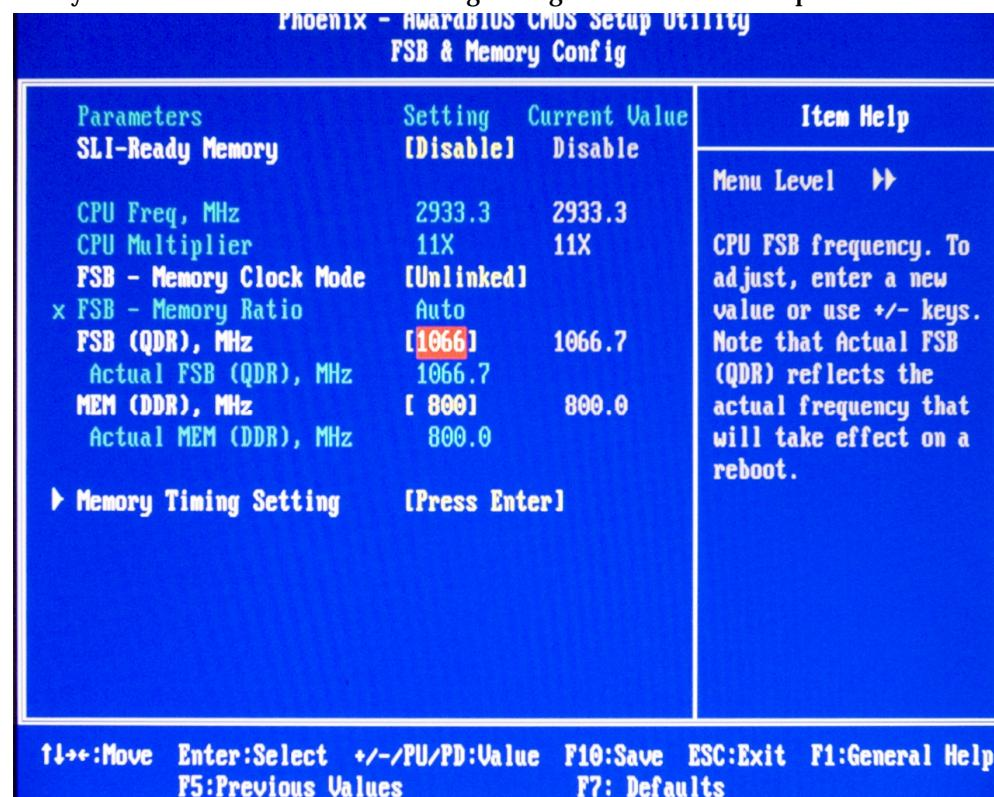

Figure 6. Frontside Bus Settings
5. If you select **FSB (QDR), MHz** you are able to input a new value. Enter your desired FSB value as shown in Figure 6.